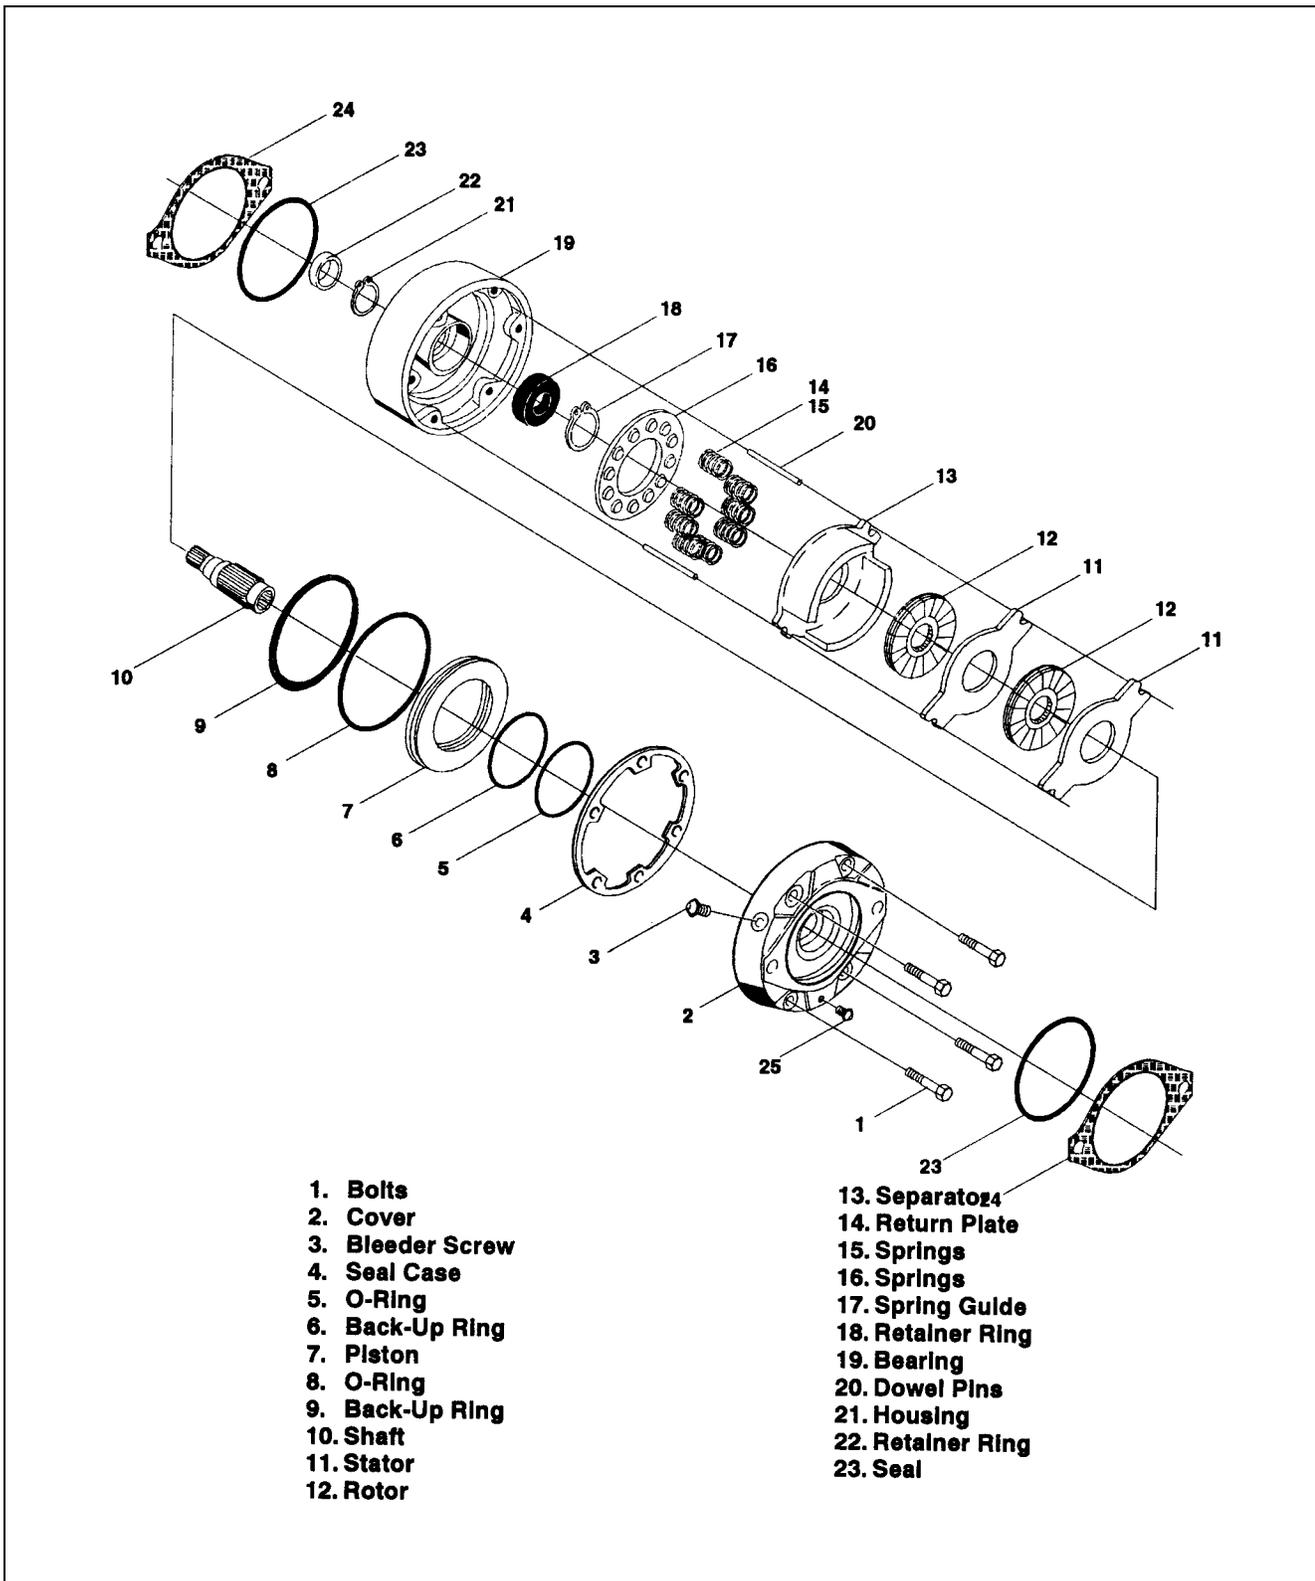

Figure 2-43. Drive Brake, Mico. (Machines Built From May 1992 To Machine S/N 33476)
2.29 DRIVE BRAKE, AUSCO. (MACHINES BUILT PRIOR TO MAY 1992) (SEE FIGURE 2-43.)